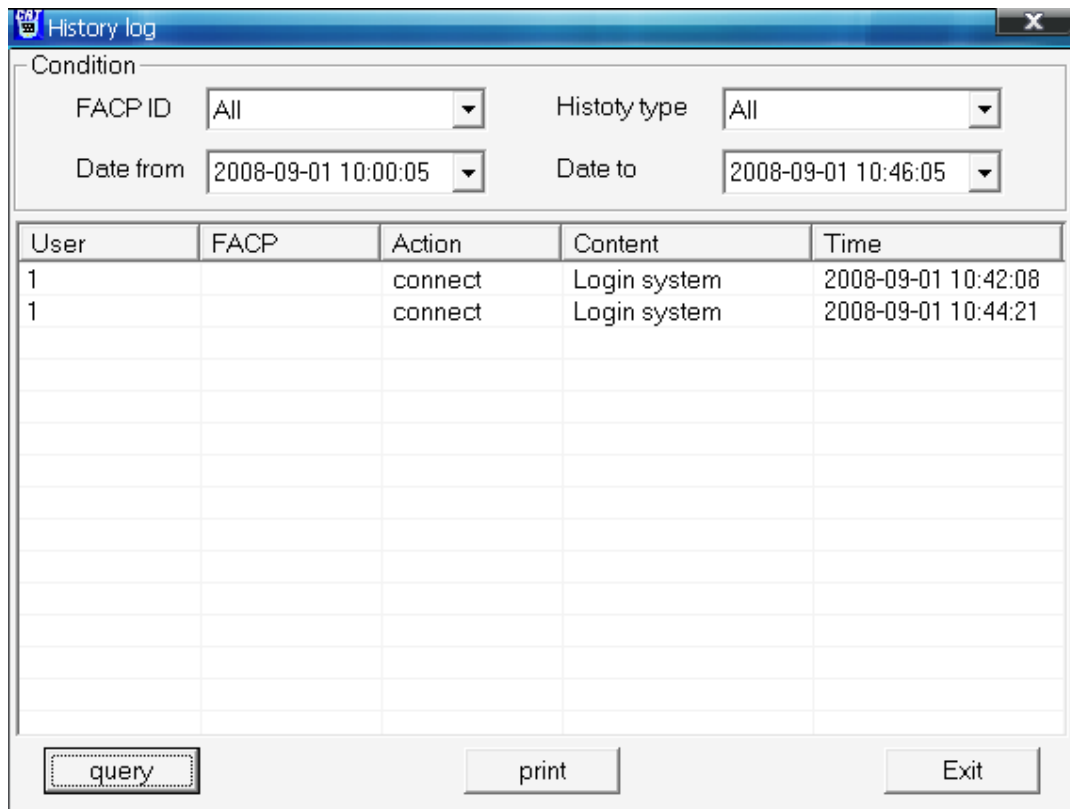

Fig. 6-14
**<SystemLog>**: Viewing history messages. By selecting the start and end time and <Query>, all events during the period will be listed (Fig. 6-14). The events can also be printed out.